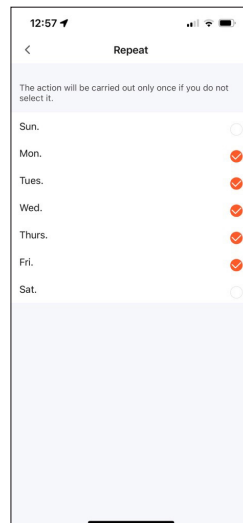

Fig. 6
5. Tap the Repeat tab to choose which days of the week the schedule should apply (see Fig. 6).